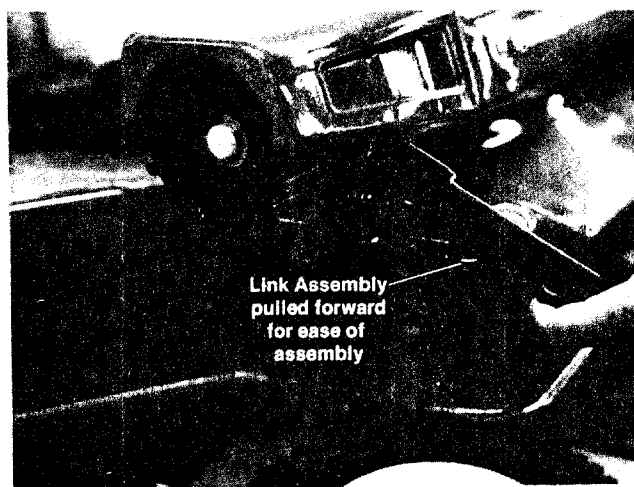

FIGURE 2.
5. Pull the link assembly forward as far as it will go. See figure 2.